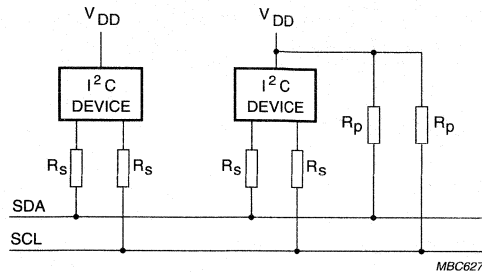

Fig.36 Series resistors (R_s) for protection against high-voltage spikes.
- As shown in Fig.36, series resistors (R_S) of e.g. 300 Ω can be used for protection against high-voltage spikes on the SDA and SCL lines (resulting from the flash-over of a TV picture tube, for example).